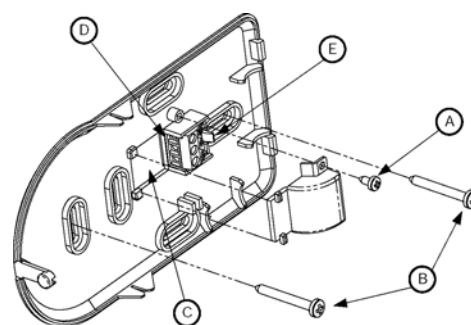

FIG. 3
2. Remove the screw, shown as 'A' in fig. 3, fixing the plastic cap and remove it.
3. Pass the wires through the hole in the base, shown as 'C' in fig. 3 and using the two screws included in the package, ('B' in fig. 3) fix the thermostat base on the junction box or directly on the wall.
4. In order to ease the electrical wiring, remove the 3-poles wiring block ('D' in fig. 3), applying a little pressure towards the external on the lever 'E' in fig. 3, which actually fixes it to the base.